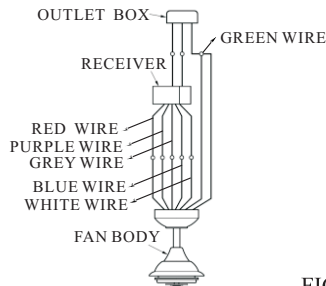

FIG.6
3. Install the safety cable into the building structure. (see Fig.6)
2. Connect the red wire from receiver to the red wire from fan with wire nut. Connect the purple wire from receiver to the purple wire from fan with wire nut. Connect the blue wire from receiver to the blue wire from fan with wire nut. Connect the grey wire from receiver to the grey wire from fan with wire nut. Connect the white wire from receiver to the white wire from fan with wire nut. Connect the green wire from ceiling, and green wire from hanger bracket with wire nut. (see Fig.6)